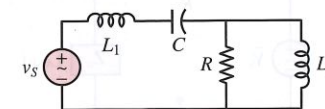

Figure P7.26
7.26 Find the real and reactive power supplied by the voltage source shown in Figure P7.26 for $\omega = 5 \text{ rad/s}$ and $\omega = 15 \text{ rad/s}$. Let $v_s = 15 \cos(\omega t)$ V, $R = 5 \Omega$, $C = 0.1 \text{ F}$, $L_1 = 1 \text{ H}$, $L_2 = 2 \text{ H}$.